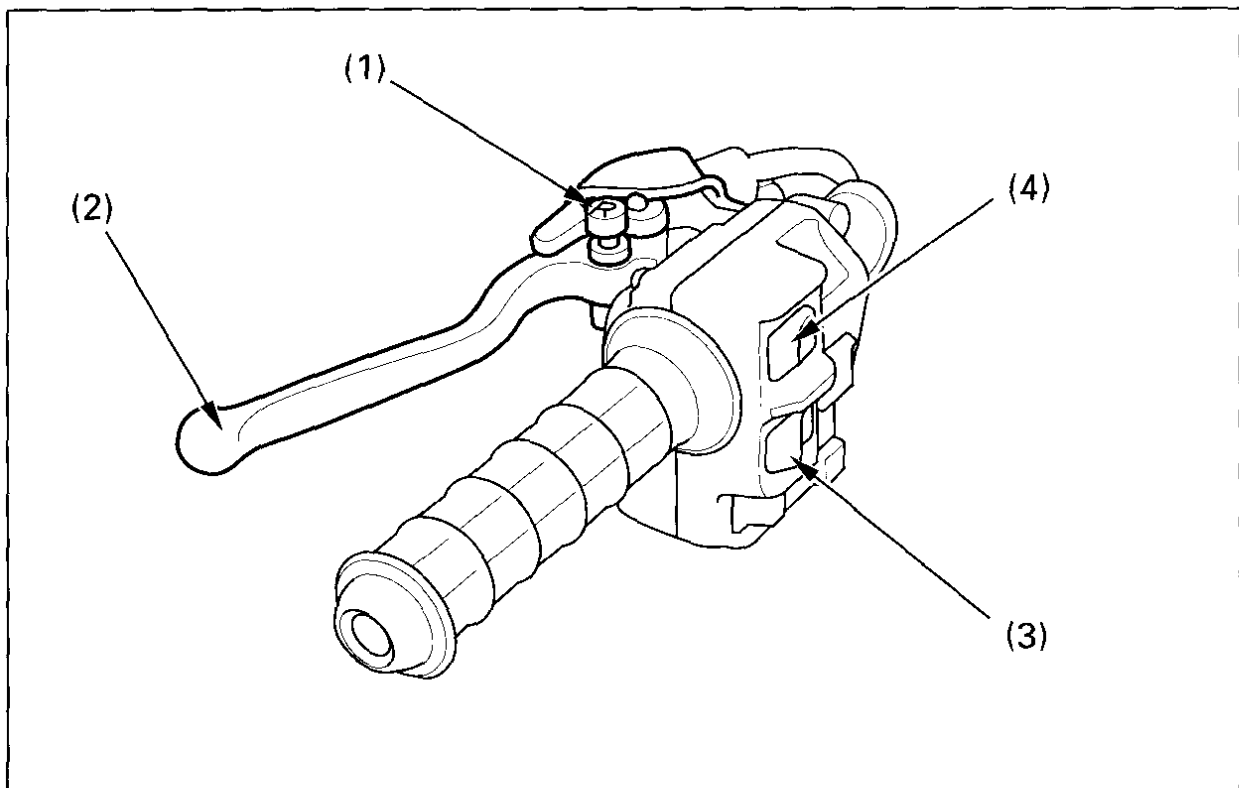

Fig. 2-23
The reverse selector knob (Fig. 2-23) (1) is on the rear brake lever.